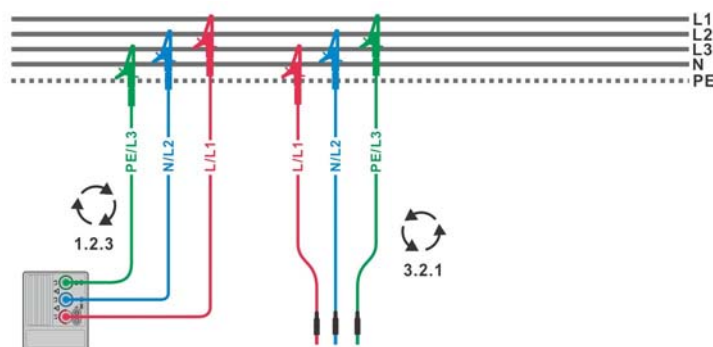
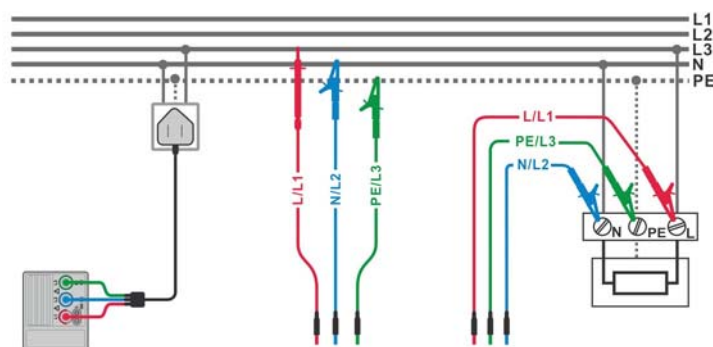

Figure 5.2: Connections of test leads in a three-phase system
Figure 5.3: Connection of plug test cable and test leads in a single-phase system
- ❑ **Connect** the test leads to the wiring or socket to be tested (see *Figure 5.2* and *Figure 5.3*).